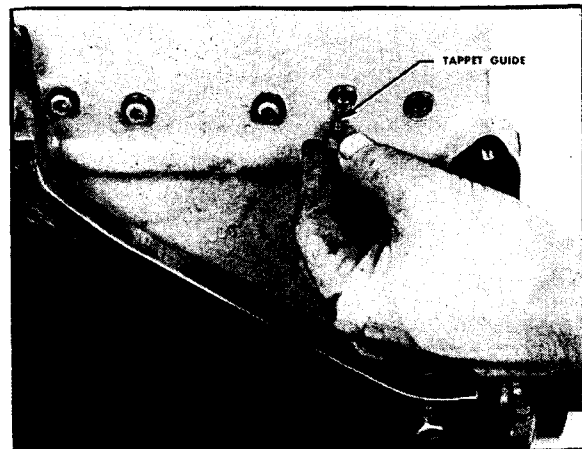

Fig. 12-41. Installing tappet guides
3. Align the tappets with the holes in the side of the block and screw the tappet locking guides into position. Fig. 12-41.